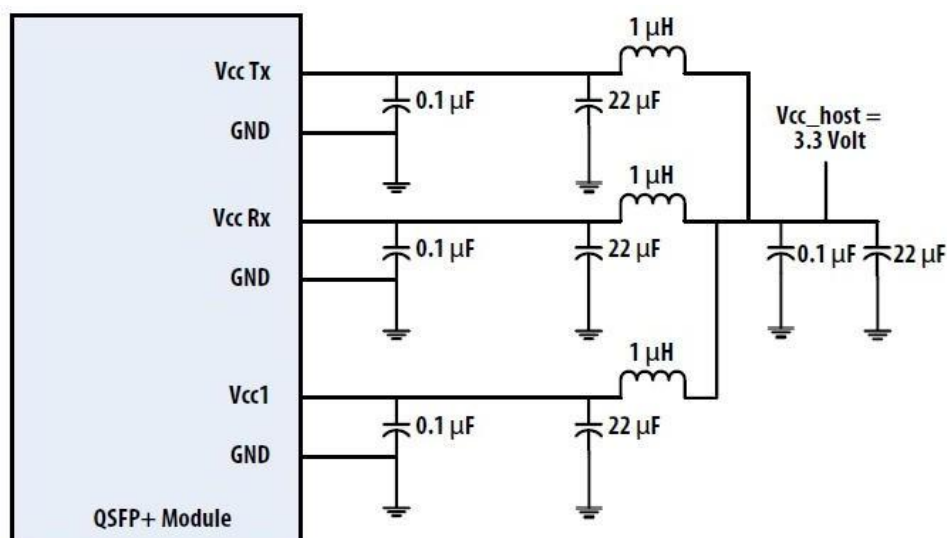

Figure 3. Recommended Power Supply Filter
2. VccRx, VccI and VccTx are the receiving and transmission power suppliers and shall be applied concurrently. Recommended host board power supply filtering is shown in Figure 3 below. Vcc Rx, VccI and Vcc Tx may be internally connected within the module in any combination. The connector pins are each rated for a maximum current of 1000mA.